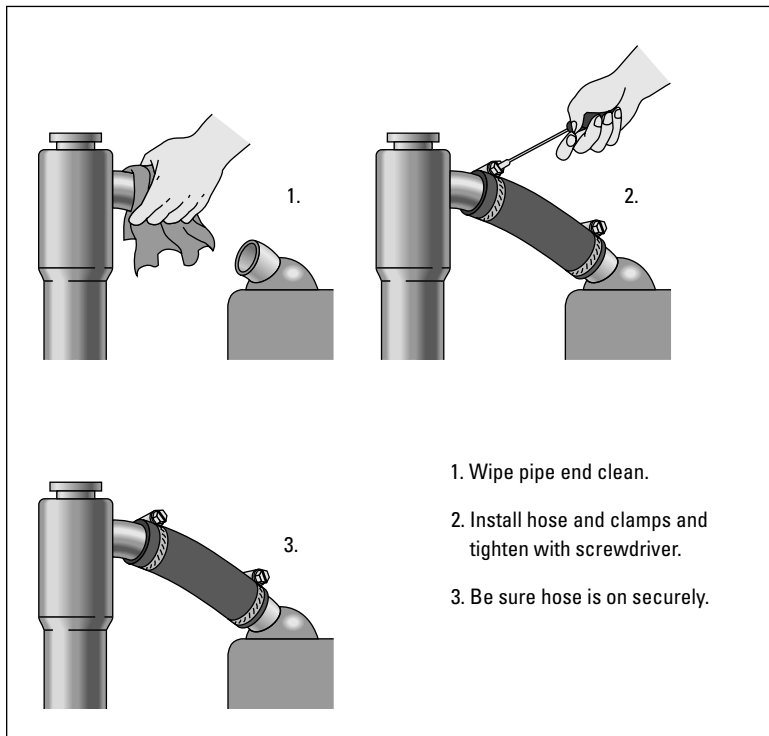

Figure 12-8: How to install a hose.
The basic process of changing a hose is quite simple (see Figure 12-8), but there are differences, depending on the type of hose you're replacing.
6. Use any degreaser or just a damp clean rag to clean the fittings that the new hose will attach to, and install new clamps over the hose (refer to Figure 12-8).